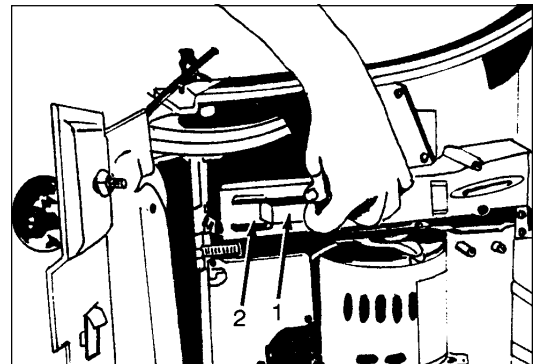

Figure 13
1. Lift the tunnel clamp (1).
2. Remove the cover (2).
5. Push the tunnel clamp down. See figure 13